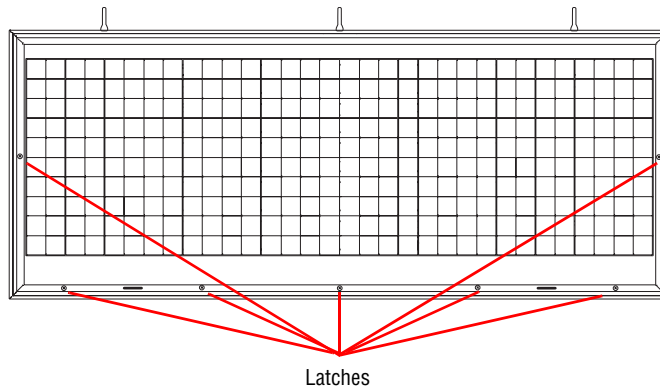

Figure 15: Front latches on sign door
9. Use the quarter-turn latches to close the sign's door. See Figure 15, "Front latches on sign door," on page 36.